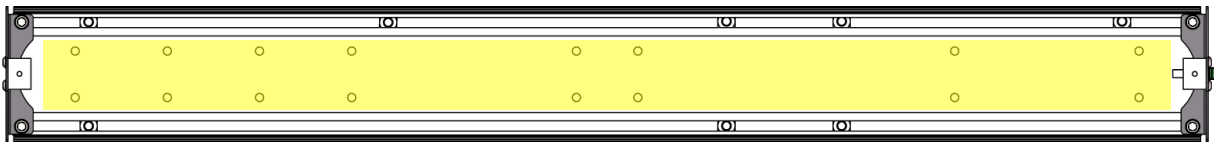

Figure 4-3 Recommended Mounting Holes
- Using the appropriate drill bit for the fasteners to be used. Drill at least 6 mounting holes on the motor side of the header, and 4 holes on the controller side. **DRILL HOLES BETWEEN THE CHANNELS** as highlighted in yellow below (Figure 4-3).